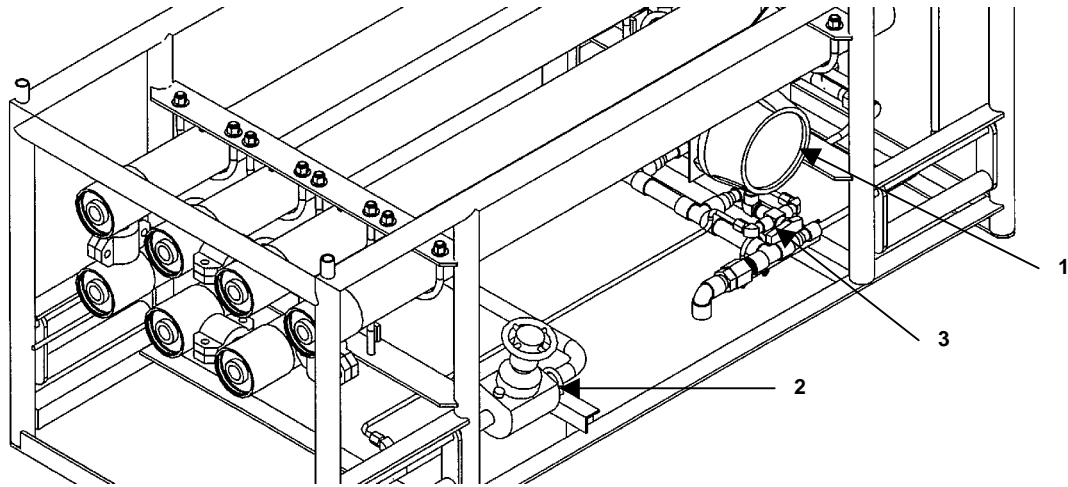
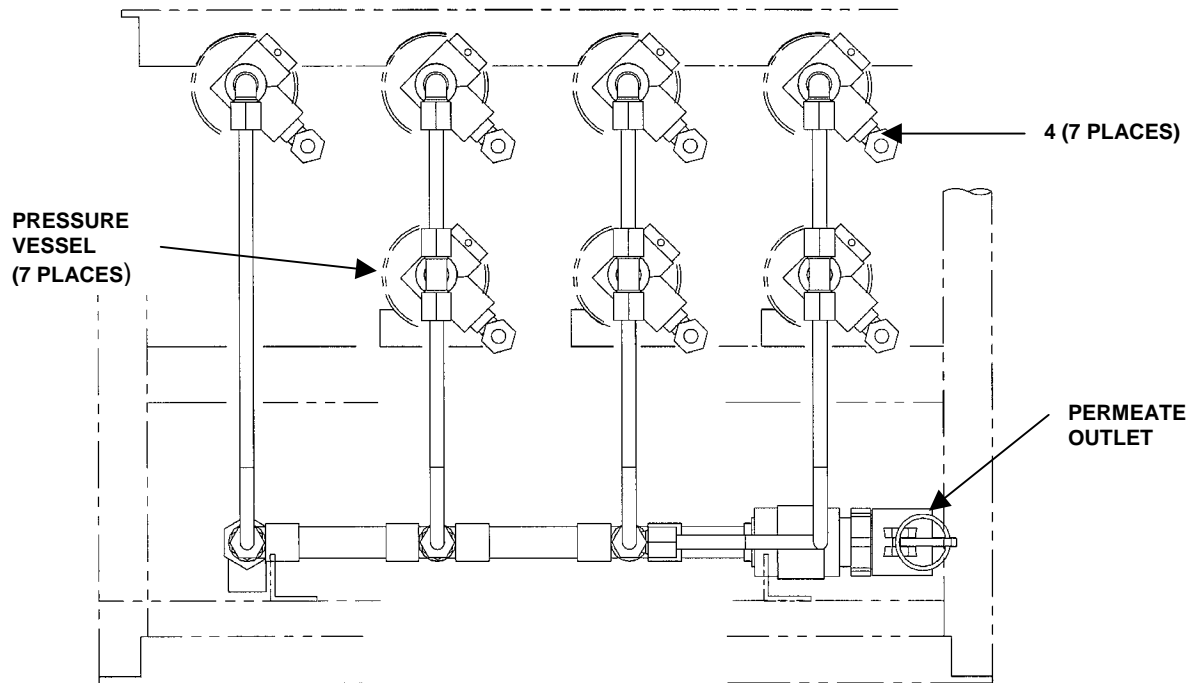
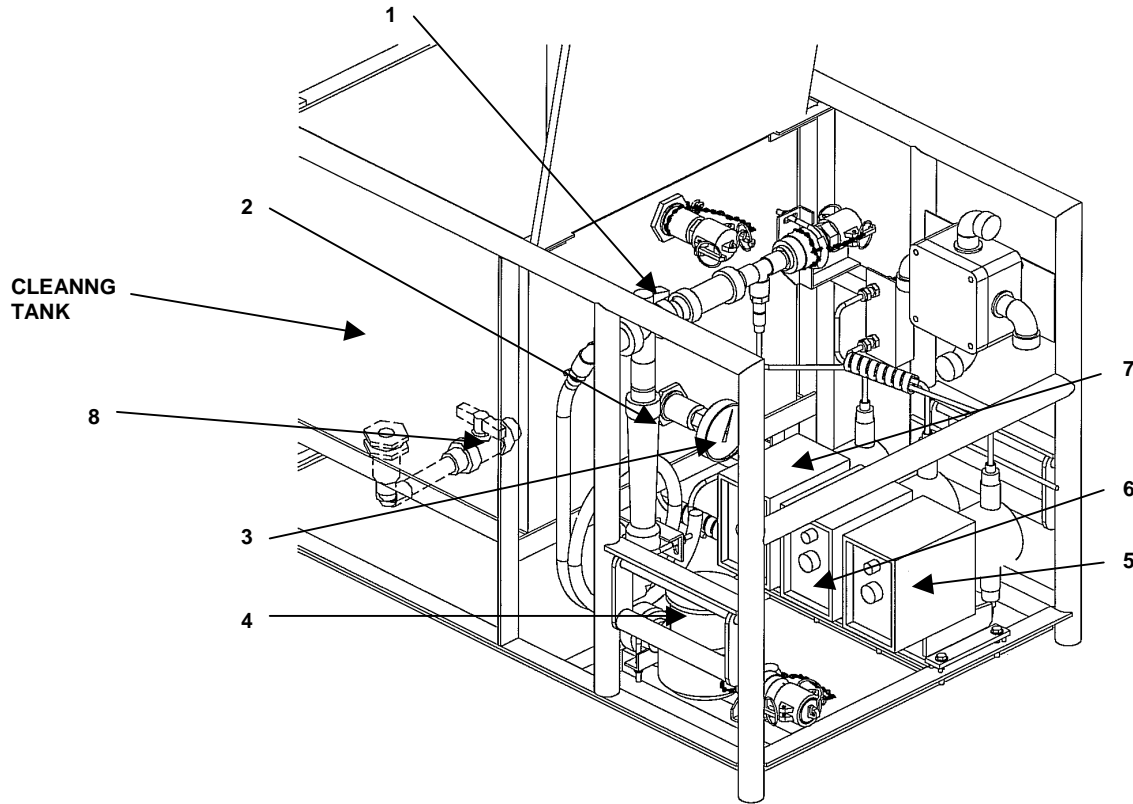

Figure 11. Reverse Osmosis Element Module.
Figure 12. Sampling Ball Valves and Pressure Vessel Assemblies.
Figure 13. Chemical Injection/Cleaning Module.
Controls and indicators on the Reverse Osmosis (RO) module are identified on Figure 11, Figure 12, and described in Table .
Controls and indicators on the chemical injection/cleaning module are identified on Figure 13, Figure 12, and described in Table .